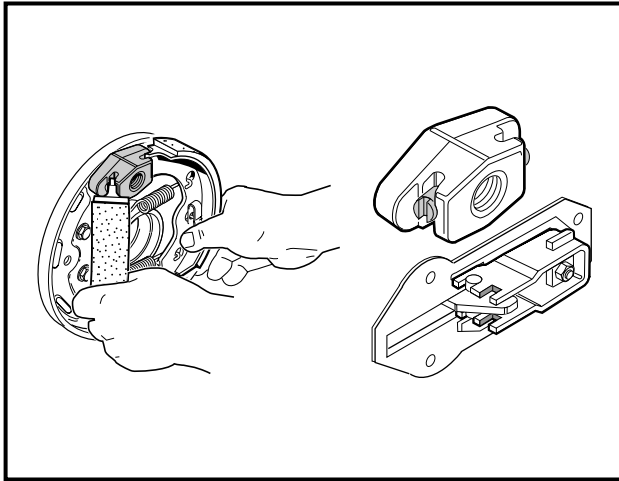

Figure 6-25 Insert Shoes
3. Attach the springs (with hooks pointing outwards) onto the shoe already installed. Then hold the other shoe next to it, correctly oriented, and attach the springs to it (**Figure 6-25, Page 6-13**). See following **NOTE**.
4. While maintaining spring attachment on both shoes, position the tips of the second shoe into mounting slots and then push shoe into place. Hold shoe in position and install the retaining clip and pin (**Figure 6-25, Page 6-13**).